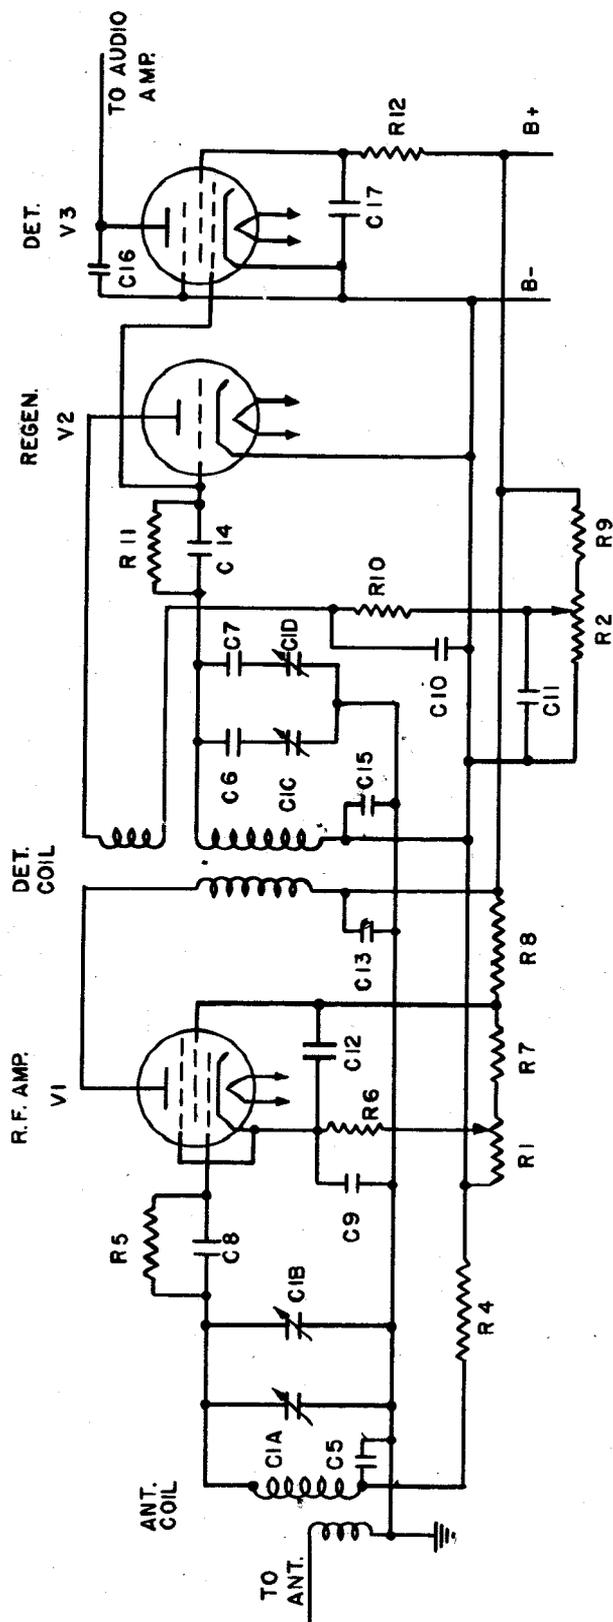

Figure 5—Radio Receiver 128-AY, Simplified Schematic Diagram of RF Section for Bands A and B.
(2) The antenna trimmer (C2) is mounted on the panel and provides a means of adjusting the antenna tuned circuit for maximum output over the entire frequency range of the receiver.
(3) The lightning arrester (LA) is a neon lamp which is connected across the antenna input circuit. If the antenna input voltage rises above approximately 60 volts, the neon lamp ignites and becomes a very low resistance. However, on ordinary radio signal voltages, the arrester presents negligible loading on the input circuit. In this way, the antenna coils are protected from lightning and also from high voltages induced in the antenna by local high-powered transmitters.
(4) The two ganged band switches, (S2) and (S3), connect the proper coils into the circuit and also make the necessary circuit changes for each band. For the purpose of explanation, assume that the band switches are on Band A. The circuit arrangement for Bands A and B are the same. A simplified schematic diagram of the r-f section for these two bands is shown in figure 5. Two sections of the tuning capacitor (C1A) and (C1B) are connected in parallel to form the capacitive portion of the antenna tuned circuit.
(5) The capacitor (C5) provides a low-impedance path to ground for the r-f current in the secondary of the antenna coil. This is required because the low potential end of the coil is connected to B— instead of ground and B— is not grounded except when operating from batteries.
(6) The resistor (R4) prevents the r-f current from entering the B supply circuit, but still provides a d-c path between the antenna coil and B—.
(7) The resistor-capacitor combination (R5-C8) is a protective device that prevents damage to the tube (V1) and its associated circuit if the tuning capacitor is accidentally shorted when the receiver is used on d-c line with the positive side grounded.
(8) The plate circuit of the r-f amplifier tube (V1) is untuned and inductively coupled to the detector and regenerator tuned grid circuit. The two capacitor combinations, (C1C) in series with (C6) and (C1D) in